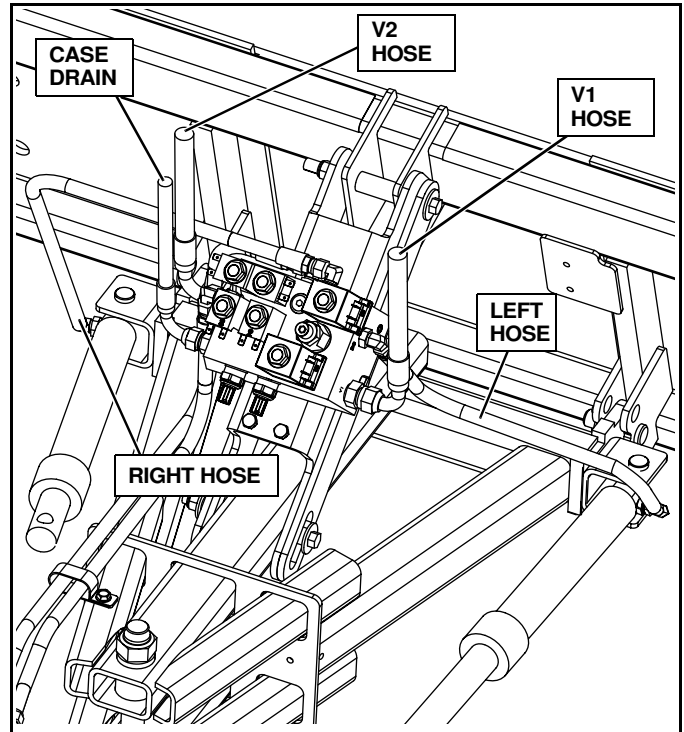

Figure 2-20
6. 29R SKD Only: Connect right (passenger side) angle cylinder to the hose from the port marked PS. Connect the left (driver side) angle cylinder to the hose from the port marked DS. (See Figure 2-20)
7. 29R SKD only: Connect couplers to end of the auxiliary hydraulic hoses. These hoses are connected to the ports marked V1 and V2. (See Figure 2-20)
8. 29R SKD Only: connect a coupler to the hose the comes from the port marked CD (Case Drain). This hose drains the excess overflow to the skid steer case drain. (See Figure 2-20)